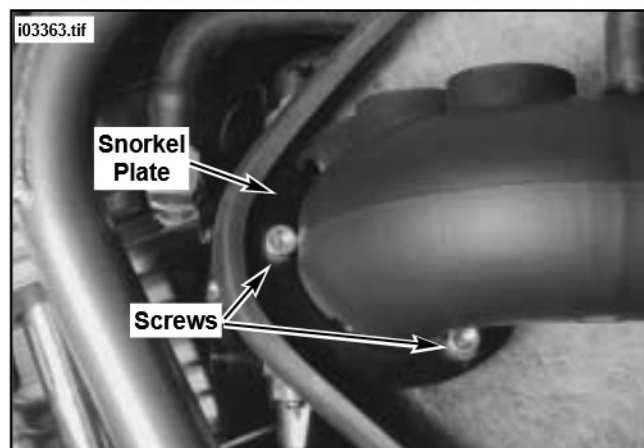

Figure 3. Remove Snorkel Plate
4. See Figure 3. Remove two screws and snorkel plate. Save hardware.